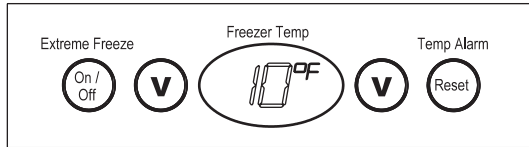

Figure 1
The desired temperature inside the freezer can be set using the UP (%) and DOWN (%) buttons on the control panel, located on the door/lid of the freezer. Press either the UP or DOWN buttons once to display the current setting. You may now use the UP and DOWN buttons to change the temperature setting to one which suits your needs. The range of settings is -10°F to 10°F (-24°C to -12°C) (see figures 1 and 2). The display will return to showing the temperature of the cabinet after five (5) seconds of inactivity.